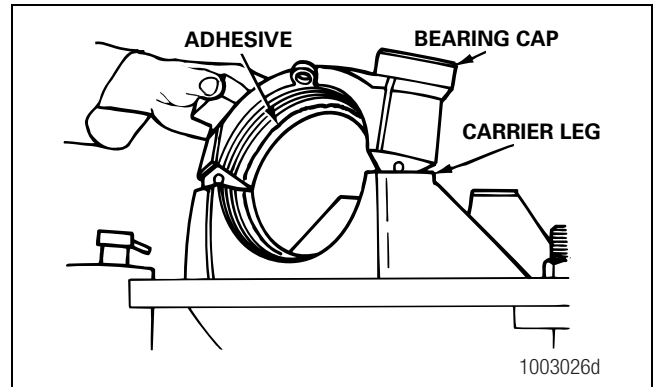

Figure 5.49
3. Apply green Loctite® 635 or 680 adhesive into the bearing bores of the carrier legs and bearing caps so that the Loctite® adhesive is spread out 360 degrees. Adhesive must not contact the adjusting ring threads. Refer to Section 6. Figure 5.49.